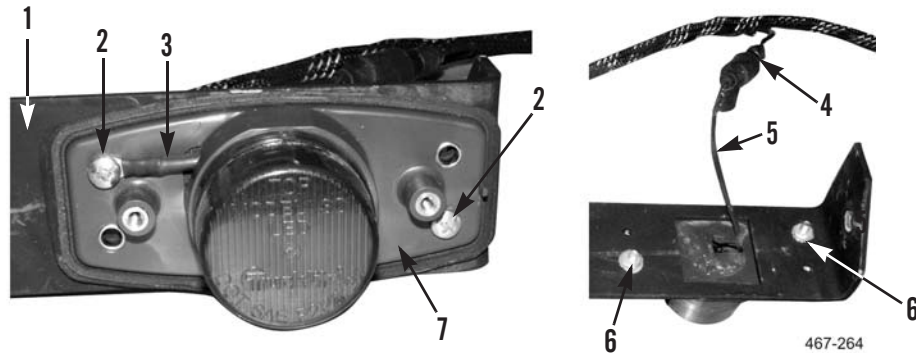

Figure 58. Inside Light Installation.
4. At inside light location of bracket (Figure 58, Item 1), feed light wire (Figure 58, Item 5) through bracket and connect to original wiring harness connector (Figure 58, Item 4).
5. Install light (Figure 58, Item 7), two screws (Figure 58, Item 2), ground wire (Figure 58, Item 3) and two nuts (Figure 58, Item 6) on bracket (Figure 58, Item 1).